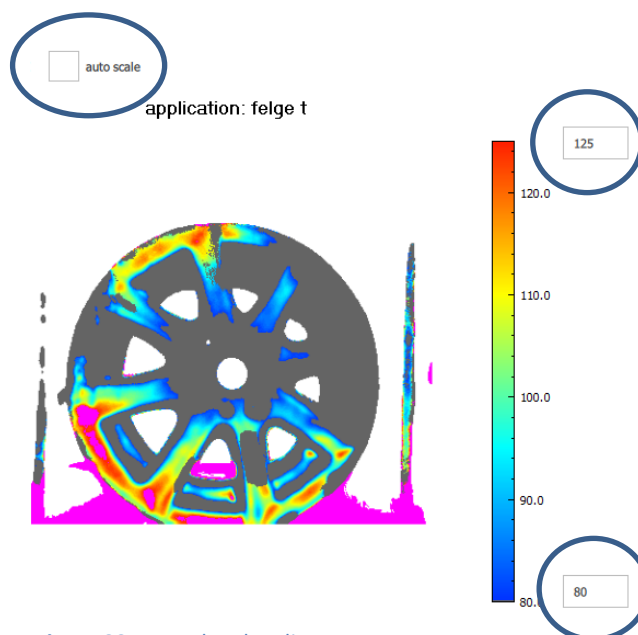

Figure 33 Manual scale adjustment
- Automatically: you first need to select the *Autoscale* option (see Figure 33). By pointing the mouse onto the scale and scrolling, you can change the scale range. The minimum value can be adjusted by pointing the scale and moving the mouse while left-clicking.